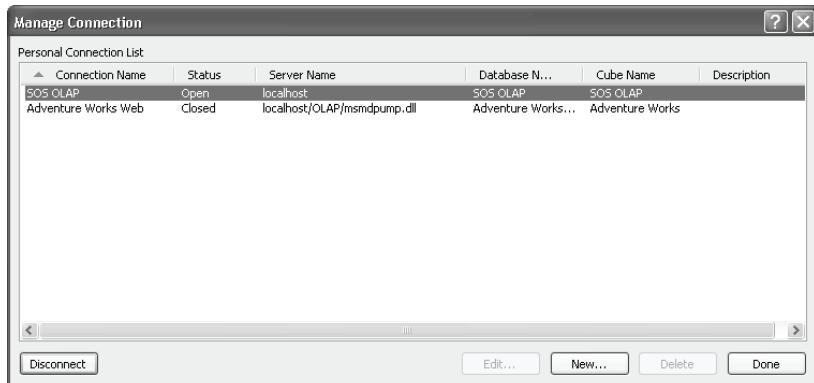

Figure 19.13 The Excel add-in supports multiple open connections.
1. Expand the Cube Analysis menu and choose *Manage Connection* (Figure 19.13).
The connection settings are saved as a standard Office Data Connection (*.odc) file in the C:\Documents and Settings\<UserName>\Application Data\ORSLN folder. You can define more than one connection and you can have multiple connections open at the same time. For demonstration purposes, as Figure 19.13 shows, I have defined two connections (via TCP and HTTP) to my local Analysis Services Server.